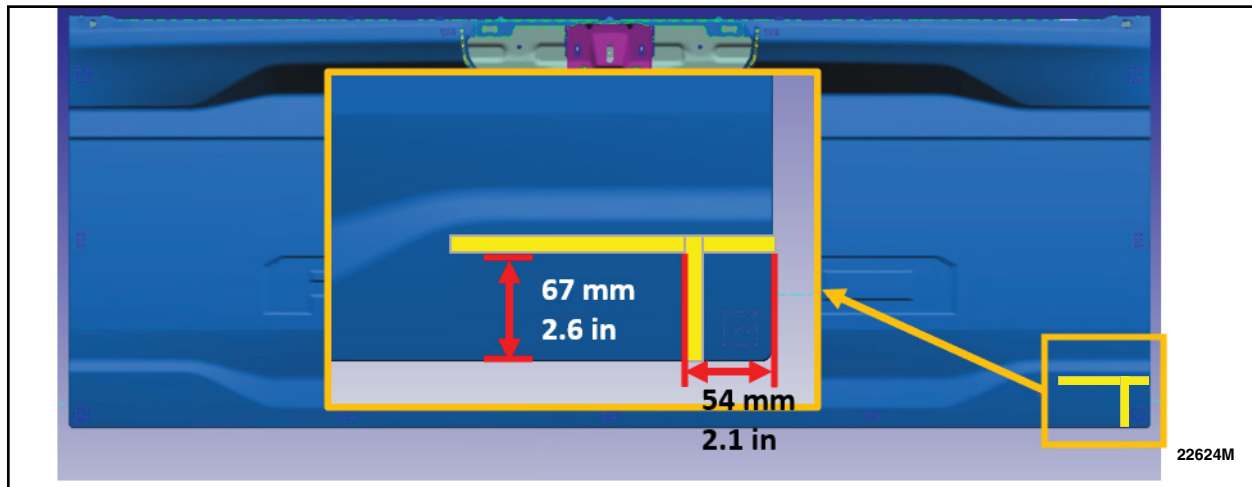

FIGURE 6
27. Measure and apply locating masking tape to the front tailgate outer panel. See Figure 6.